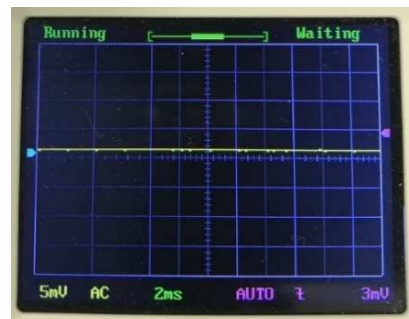

Fig.7
3) Press the "TRIGGER" button and check if "Level" (for threshold value) area is selected as the trigger condition. Turn the adjustment knob in to 3mV as the threshold voltage value. Check if "3mV" numeric expression is displayed at the right end of the menu bar and a pink arrow appears on the right margin of the Y-axis (Fig.7).